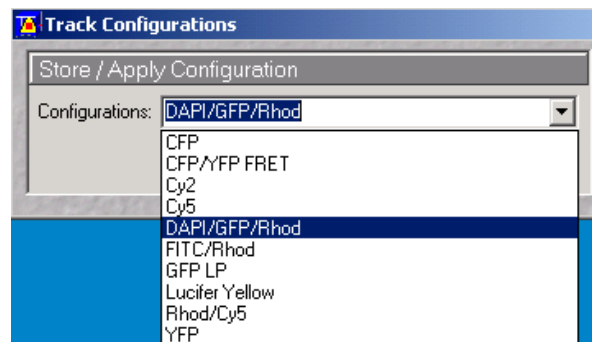

Fig. 13 Track Configurations window
- Clicking on the **Config** button opens the **Track Configurations** window (Fig. 13) to load, store or delete track configurations.